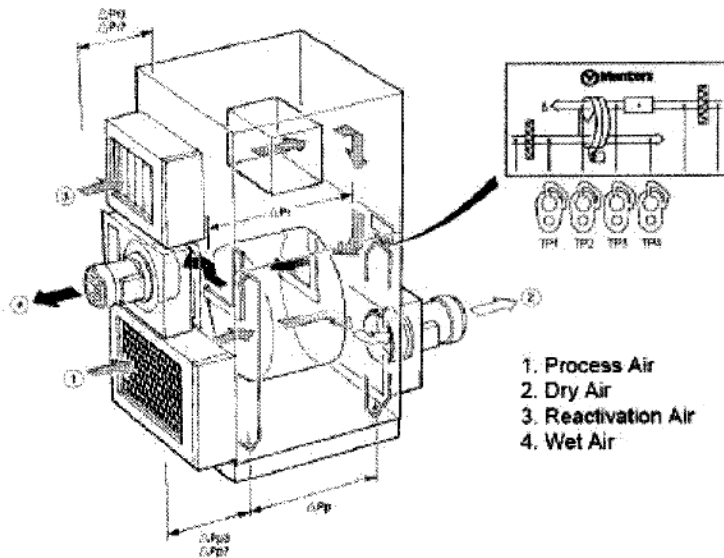

Figure 2-6. Air pressure test points
- (1) Process air temperature = 20° C. Process air density = 1.20 kg/m³
(2) Refer to *figure 2-6*.